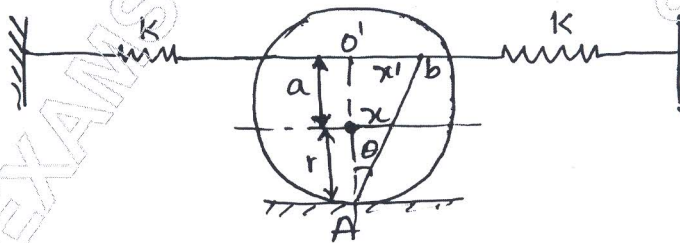

Fig.Q3(a)
- 3 a. Determine the natural frequency of the system shown in Fig.Q3(a) by energy method.